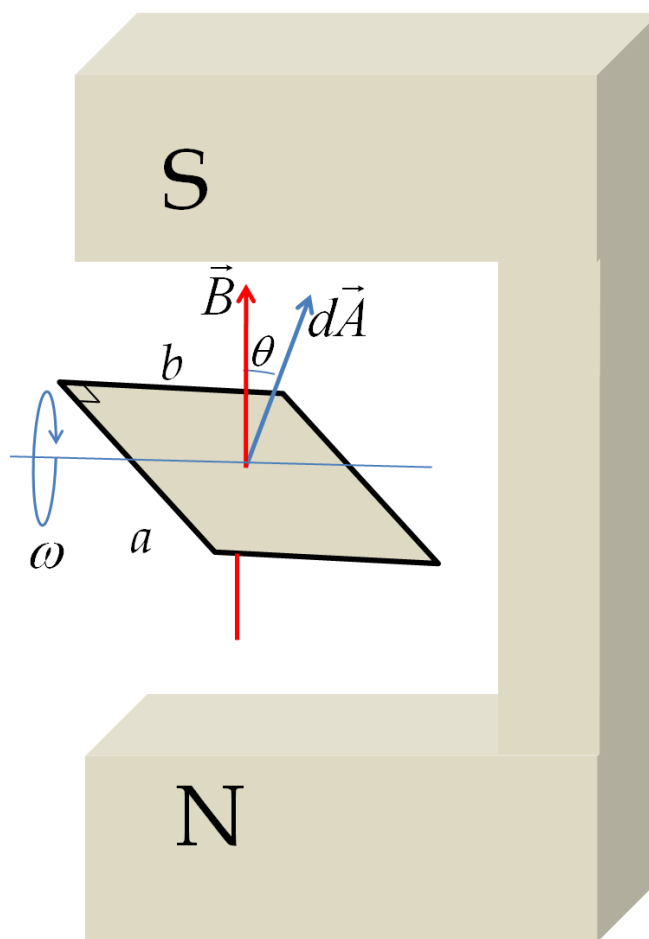

Figure 10.25: To induce an EMF in a loop, the loop is rotated about an axis that is perpendicular to the magnetic field and area vector.
The changing magnetic flux as a result of the changing orientation of a loop is exploited to construct a source of current called the **alternating current (AC) generator**. The orientation of a loop with respect to a magnetic field can be changed by rotating the loop. To rotate the loop one usually mounts the loop on a structure with a handle that can rotate the loop about an axis perpendicular to the direction of the magnetic field and to the area vector of the loop as shown in Fig. 10.25. We will address later the question of how we connect the loop to the outside world to harness the energy in the induced current. For now, we focus our attention on how a current can be induced in a rotating loop. When the conducting loop